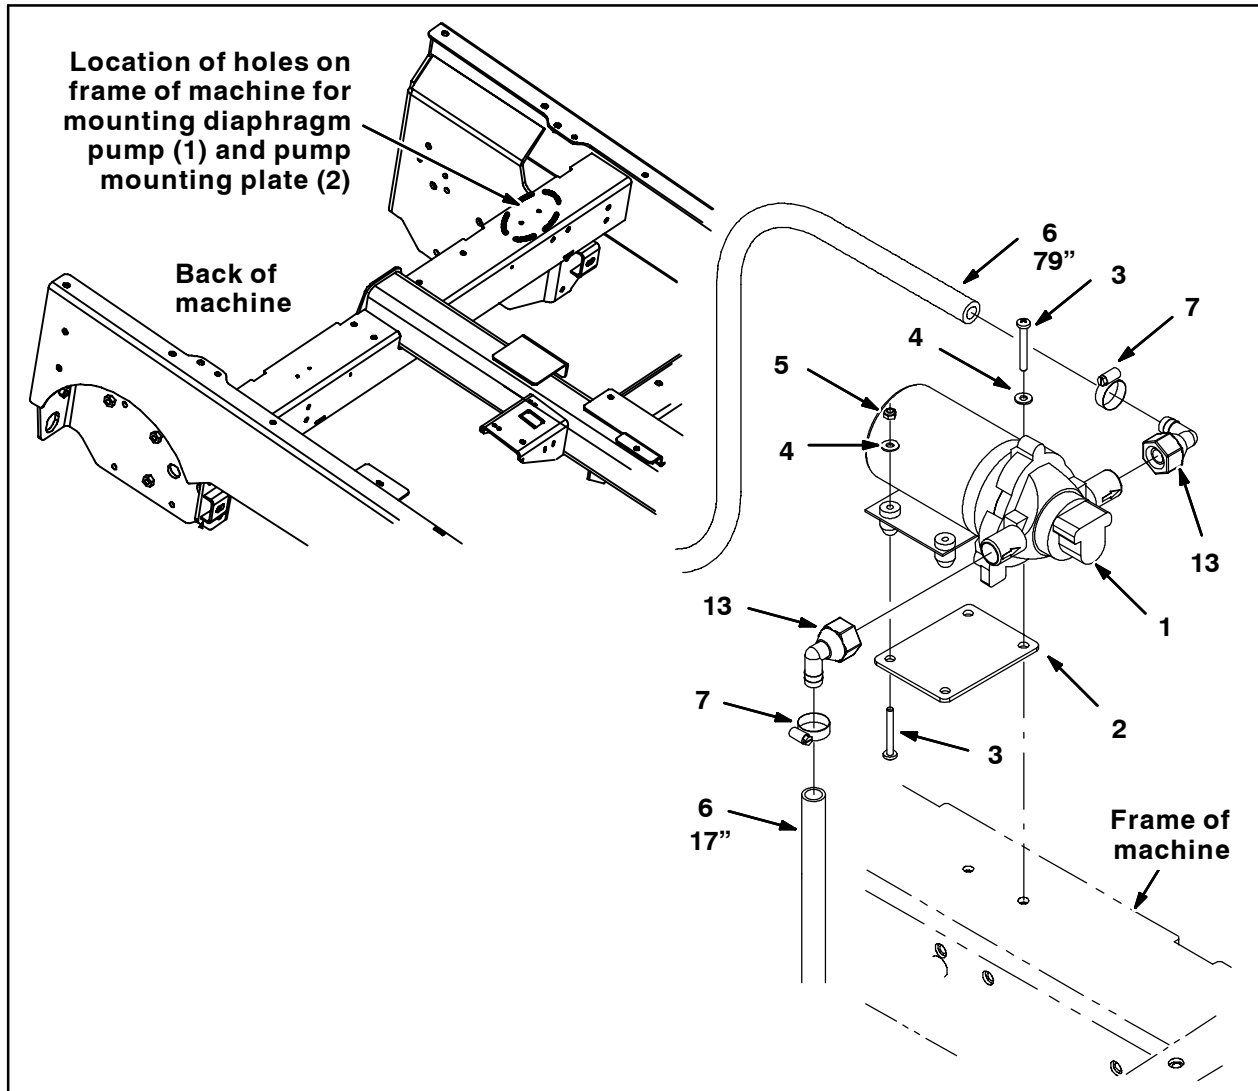
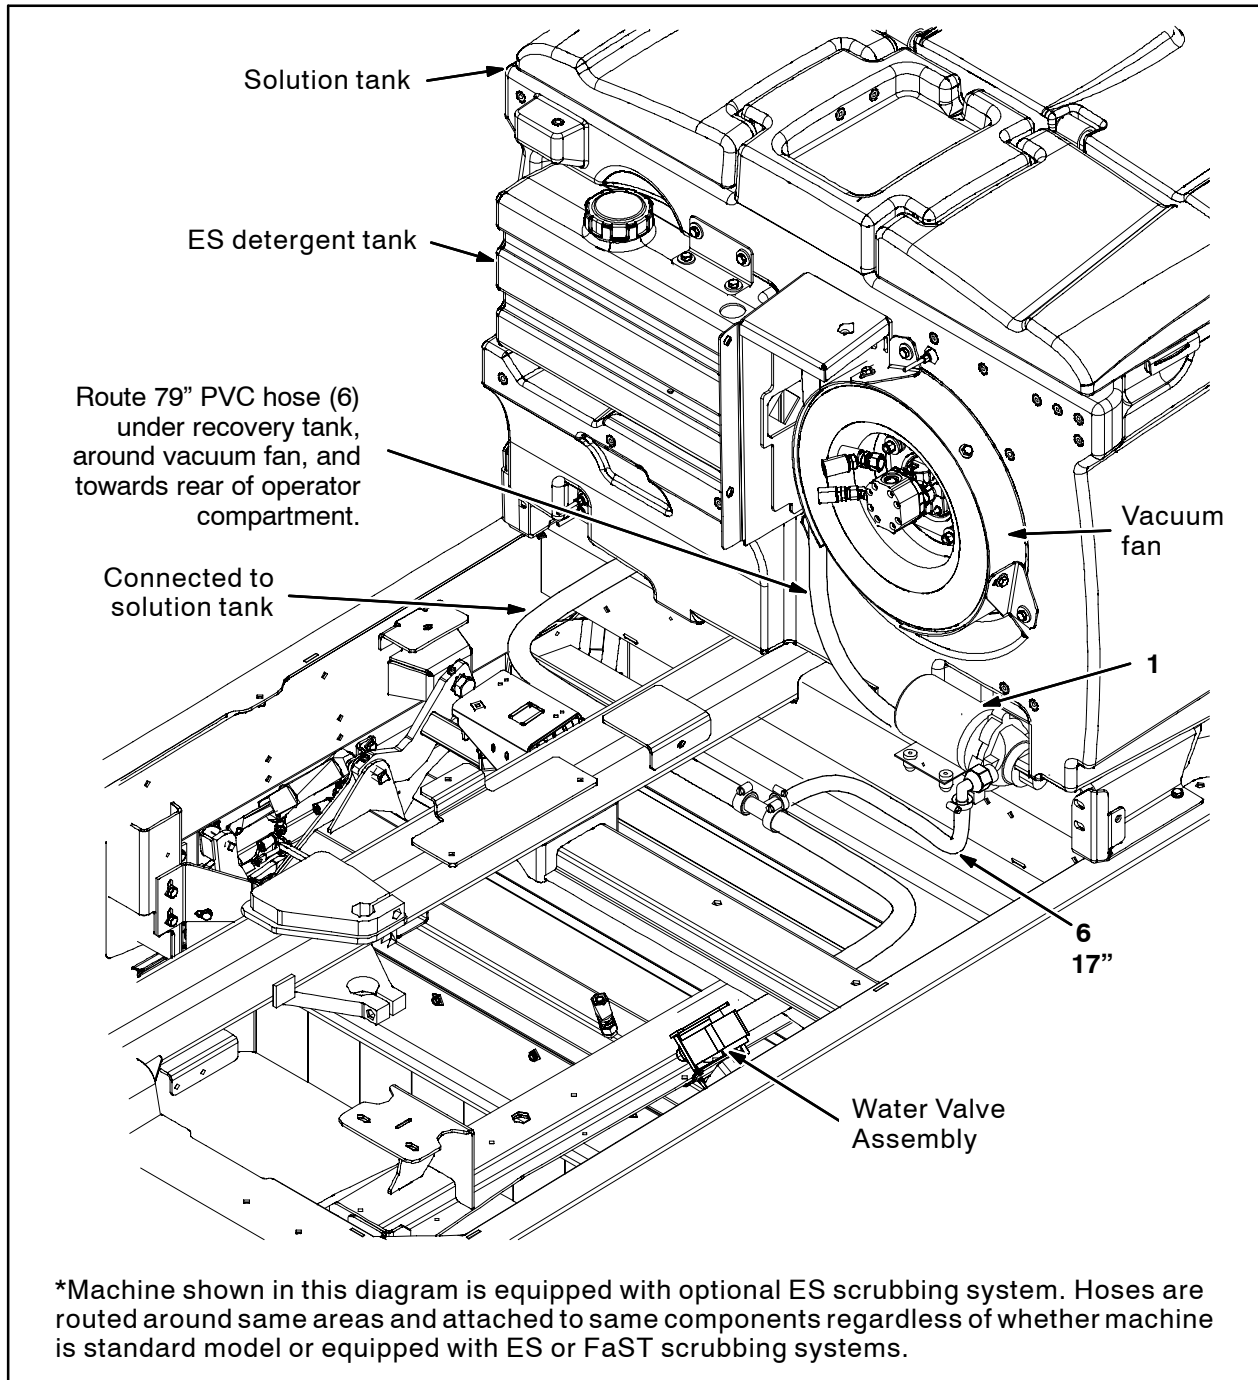

FIG. 4
FIG. 5
5. Use two pan screws (3), two flat washers (4), and two hex nuts to install the pump mounting plate (2) onto the pump (1). Refer to Fig. 4.
6. Use two pan screws (3) and two flat washers (4) to install the pump mounting plate (2) onto frame of the machine. Refer to Fig. 4 and Fig. 5.
7. Use the 90° plastic fitting (13) to connect the PVC hose (6) to the pump (1). Refer to Fig. 4.
8. Use a hose clamp (7) to attach a 90° plastic fitting (13) onto the 79" PVC hose (6). Refer to Fig. 4.
9. Use the 90° plastic fitting (13) to connect the 79" PVC hose (6) to the pump (1). Refer to Fig. 4.
10. Route the 79" PVC hose (6) under the recovery tank, around the vacuum fan, and towards the rear of the operator compartment. Refer to Fig. 5.